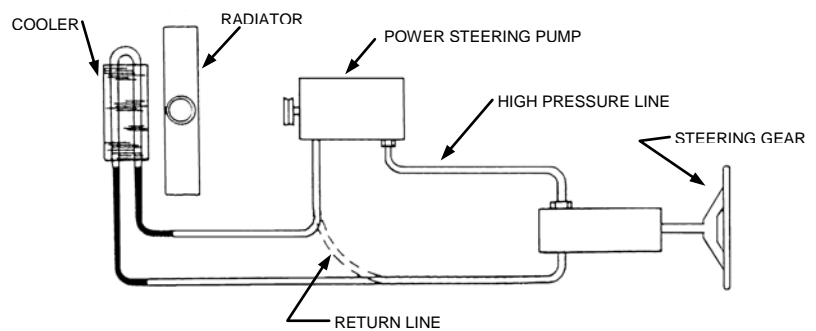

FIGURE 4
3. Measure and cut hose for connection to predetermined return line of system (fig. 4). *Note:* various vehicles have rubber hose sections combined in the return line circuit. This is an excellent connection point. In other vehicles, it may be necessary to replace original hose for connection.